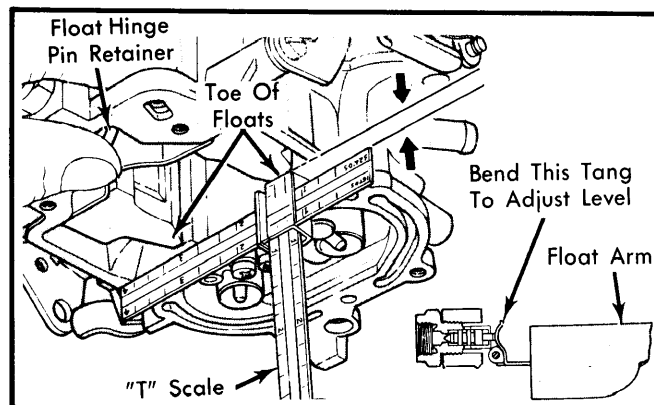

Fig. 1 Adjusting Float Level
1) Install float and hinge pin in main body. Install hinge pin retainer. Install float needle valve, seat and gasket in main body. Tighten securely. See Fig. 1.